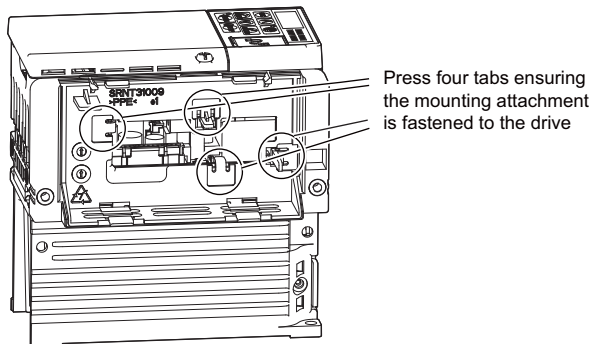

Figure 14 Locking the Mounting Attachment into Place (PS-V10S)
3. Press firmly on the mounting attachment tabs and make sure it is locked into place on the side of the drive case as shown in *Figure 14*.